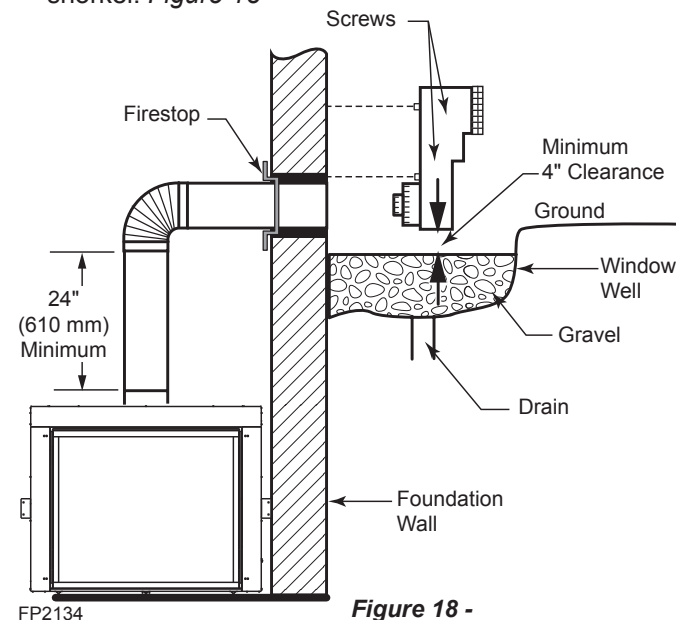

Figure 18 -
- Remove soil to a depth of approximately 16" below base of snorkel. Install drain pipe. Install window well (not supplied). Refill hole with 12" of coarse gravel leaving a clearance of approximately 4" below snorkel. *Figure 18*
- Level the soil so as to maintain a 4" clearance below snorkel. *Figure 18*